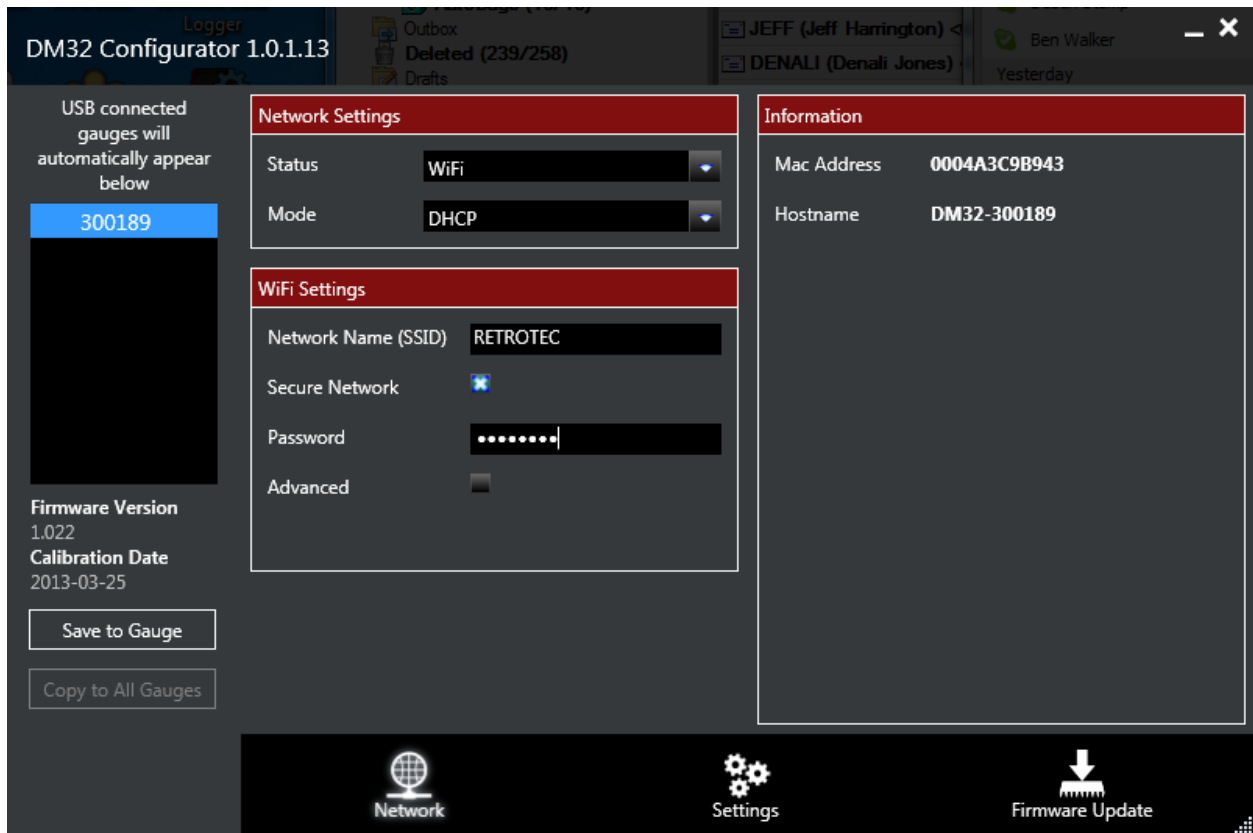

Figure 19: Secure WiFi network needs DHCP, Network name, and Password entered
9. If you have a secure WiFi network, click on the "Secure network" button and more information is shown to be entered as in Figure 19